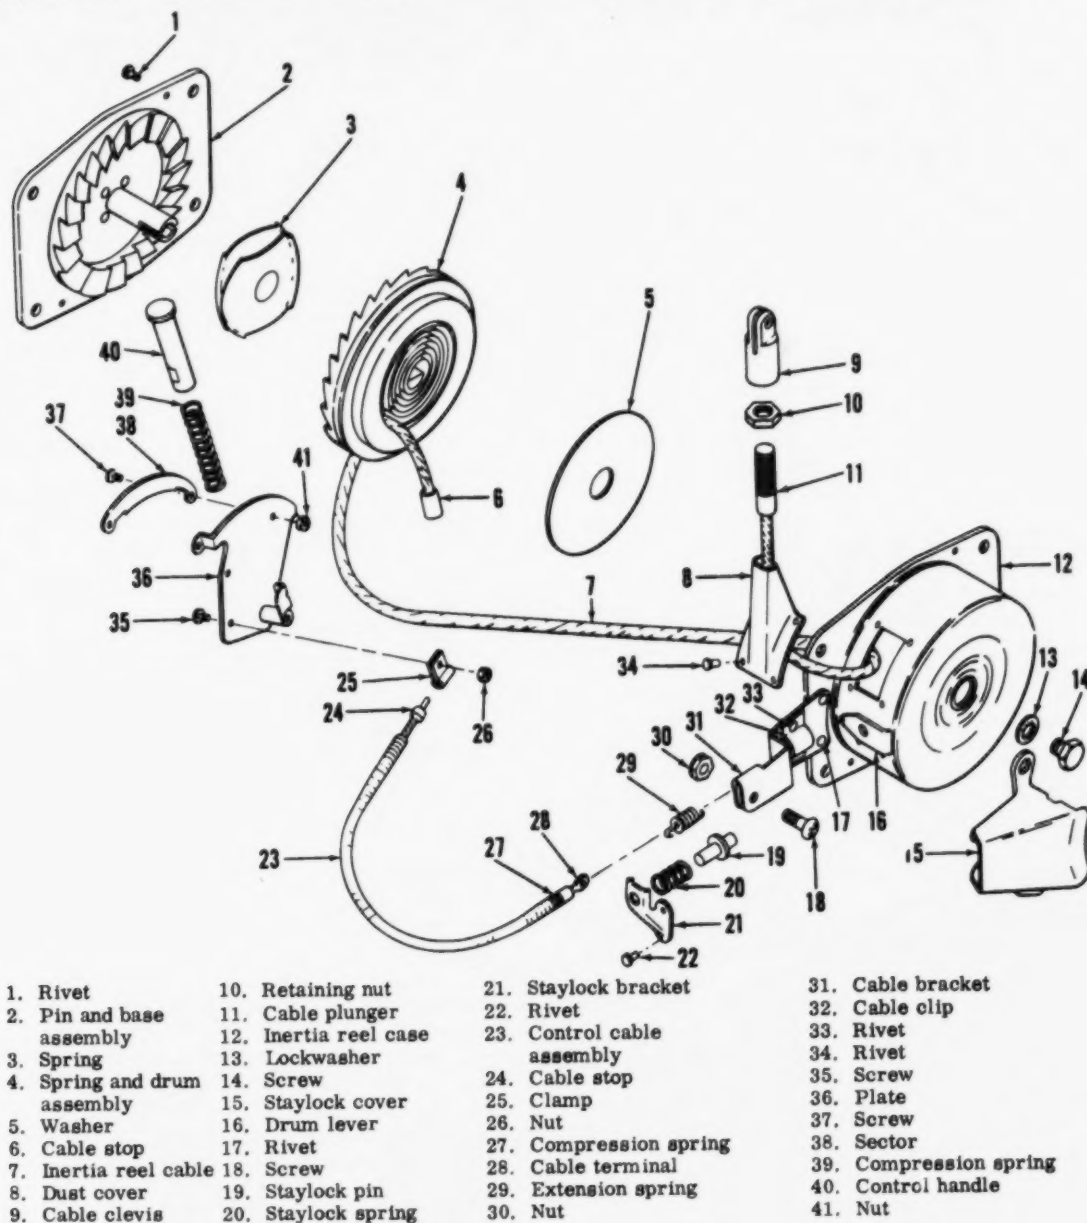

Figure 4-15. Inertia reel assembly
4-68. INERTIA REEL ASSEMBLY. The inertia reel assembly (figure 4-15) is attached to the main spar web behind each seat and is controlled by a two-position lever in a control quadrant located on the left forward edge of each seat. A flexible cable and housing assembly links each control handle to its respective inertia reel. A spring-loaded latch in the end of the handle locks the handle in either selected position. When the handle is unlocked (aft), the inertia reel maintains a slight tension on the harness, but permits the pilot or copilot to lean forward to reach the controls. When the handle is moved to the locked (forward) position, the inertia reel locks the harness in successive positions as the pilot leans back. Before the inertia reel can be unlocked, all tension must be removed from the harness by leaning full back in the seat. If the handle is in the unlocked (aft) position, an impact force of 2 G's will automatically lock the inertia reel and prevent the occupant from being thrown forward. To unlock the inertia reel after a 2-G force has locked it, the handle must be moved to the locked (forward) position and then to the unlocked (aft) position.
(3) Loosen retaining screw on cable stop (24, figure 4-15) and remove cable stop.
d. Disassembly. (1) Remove nut (26, figure 4-15), screw (35), and clamp (25) from plate (36), and free control cable assembly (23).
(2) Remove nuts (41) and screws (37) securing sector (38) to plate (36).
(3) Remove sector (38) from slot in control handle (40).
e. Repair or replacement. (1) Replace broken or defective parts.
(2) Replace inertia reel cable (7, figure 4-15) having frayed cable strands, corrosion, or other damage as follows:
f. Reassembly. (1) Check cable plunger (11, figure 4-15) and cable terminal (28) for proper swaging to their respective cables before reassembly.
(4) Route and secure control cable housing through clamps on side of seat structure.
(5) Position and secure control cable housing in clamp at control quadrant.
(6) Place control handle (40, figure 4-15) in unlocked position (full aft), attach cable stop (24) on control cable as close to control handle as possible, and tighten cable stop retaining screw.
(7) Adjust inertia reel assembly in accordance with paragraph h below.
(8) Install seat cushions in accordance with paragraph 4-57, 4-60, and 4-63.
h. Adjustment. (1) Place control handle in unlocked position (full aft), then pull shoulder harness up and down to check for freedom of movement. If movement is jerky, relocate the cable housing in control quadrant until trouble is eliminated.